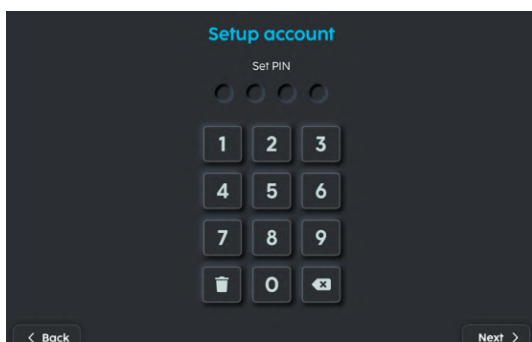

FIGURE 3-5
5. Create a new PIN **(Fig. 3-5)**.